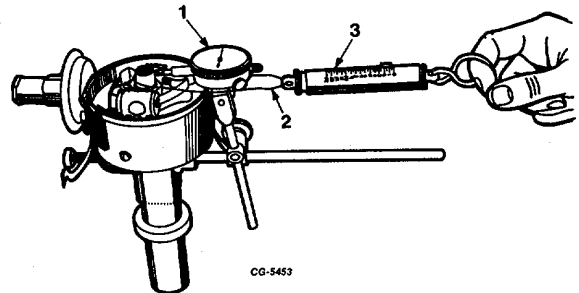

Fig. 5 Shaft and Bushing Wear Test (Checking Distributor Shaft Side Play)
3. Attach dial indicator to distributor housing so that indicator plunger rests against distributor cam (rotor shaft) assembly (Figure 5).
4. Place one end of a wire loop around top of distributor cam assembly (rotor shaft). Hook a spring scale in other end of wire loop and pull on a line with plunger of dial indicator (Figure 5). Wire loop must be perpendicular to shaft to assure a straight pull. Also, loop must not interfere with dial indicator mounting bracket.